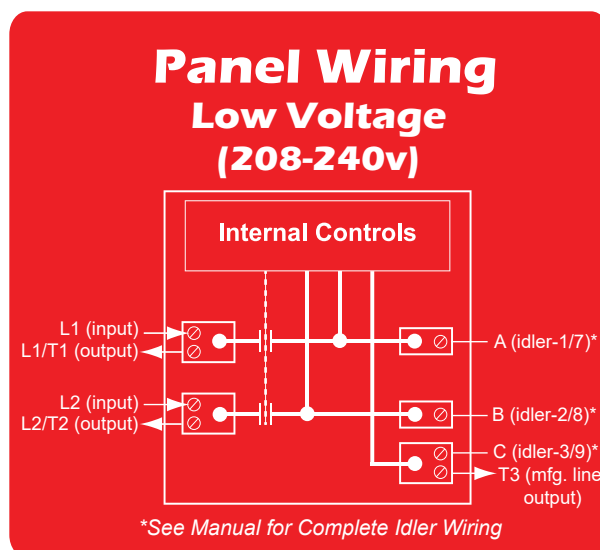

Figure 3.2.1 (\*Lug diagram may be different on larger units)
Locate the (A) terminal. Connect one wire to this single barrel lug. This wire should connect to wires 1 and 7 inside the idler junction box using ring terminals bolts and nuts. (See fig 3.2.1 & 3.2.2 on pg 11)
Locate the (B) terminal. Connect one wire to this single barrel lug. This wire should connect to wires 2 and 8 inside the idler junction box using ring terminals bolts and nuts. (See fig 3.2.1 & 3.2.2 on pg 11)
Locate the (C) terminal. Connect one wire to this double barrel lug. This wire should connect to wires 3 and 9 inside the idler junction box using ring terminals bolts and nuts. ((See fig 3.2.1 & 3.2.2 on pg 11)
Connect wires to L1/L2 lugs and connect ground wire to the ground lug. (See fig. 3.2.1 on pg 11.)